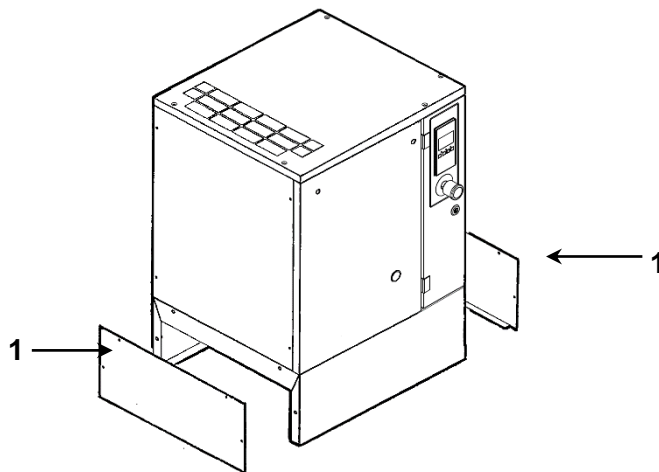

FIG. 24
20.1 PREPARING FOR SETTING UP (FIG.24)
After checking everything as indicated in Chap. 12, follow the instructions in Fig. 24.
- Fit the sound-absorbing panels Ref. 1 Fig. 24